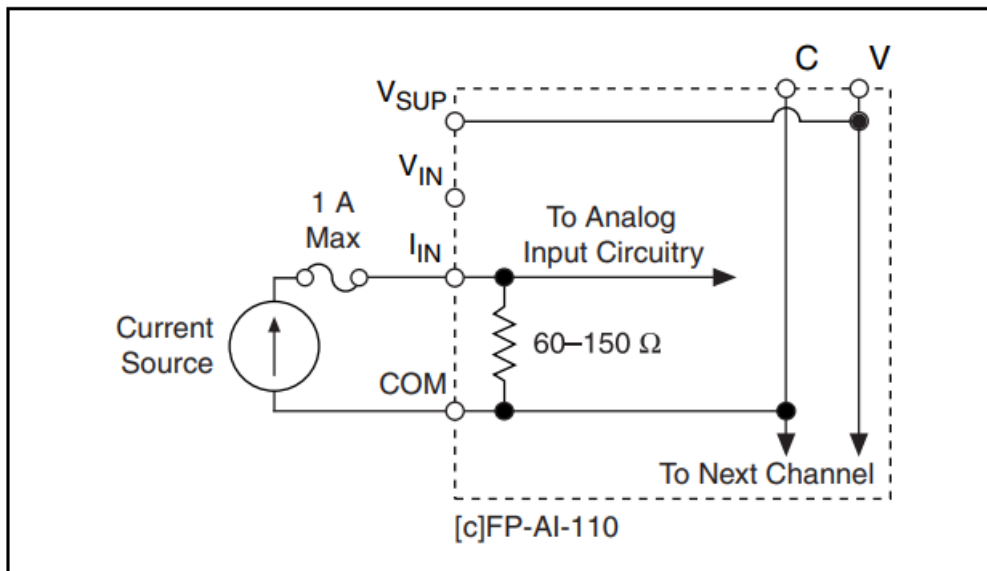

Figure 6. Current Source without External Power Supply
- Figure 6 shows how to connect a current source without an external power supply to one channel of the [c]FP-